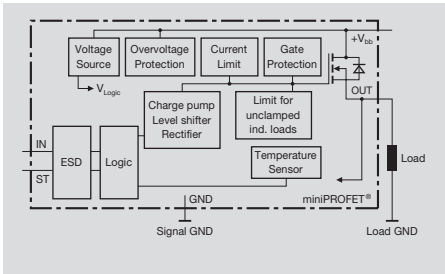

Figure 6.12 PROFET - Block Diagram
Figure 6.12 is a block diagram of a typical PROFET incorporating the features previously mentioned. Notice the vertical, n-channel
Surrounding the vertical power MOSFET (the switch) are the various functional and protection blocks implemented in logic circuitry (illustrated in Figure 6.12). In addition, ESD protection on the logic input (IN) and integrated diagnostic feedback (ST) pins are provided.